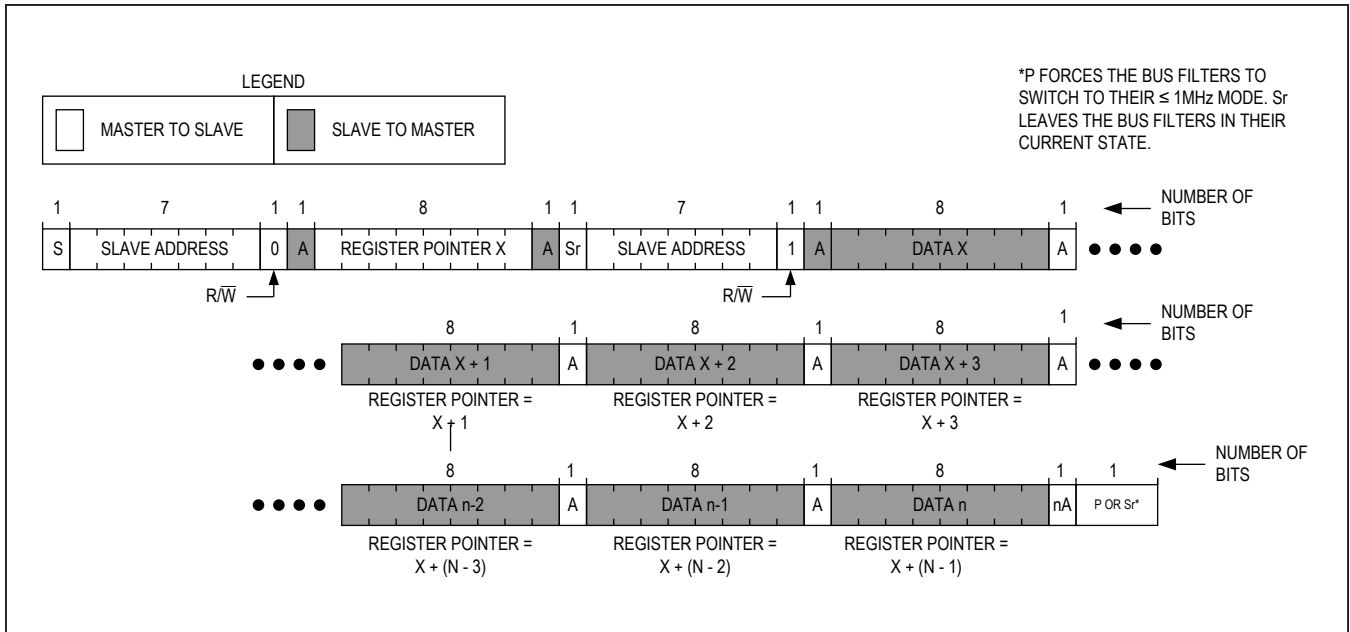

Figure 16. Reading Continuously from Sequential Registers with X to N
Figure 16 shows the protocol for reading from sequential registers. This protocol is similar to the read byte protocol except the master issues an ACKNOWLEDGE (A) to signal the slave that it wants more data. When the master has all the data it requires, it issues a NOT ACKNOWLEDGE (nA) and a STOP (P) to end the transmission. The continuous read from sequential registers protocol is as follows:
- 1) The master sends a START command (S).
- 3) The addressed slave asserts an ACKNOWLEDGE (A) by pulling SDA LOW.
- 8) The addressed slave asserts an ACKNOWLEDGE (A) by pulling SDA low.
- 10) The master issues an ACKNOWLEDGE (A) signaling the slave that it wishes to receive more data.